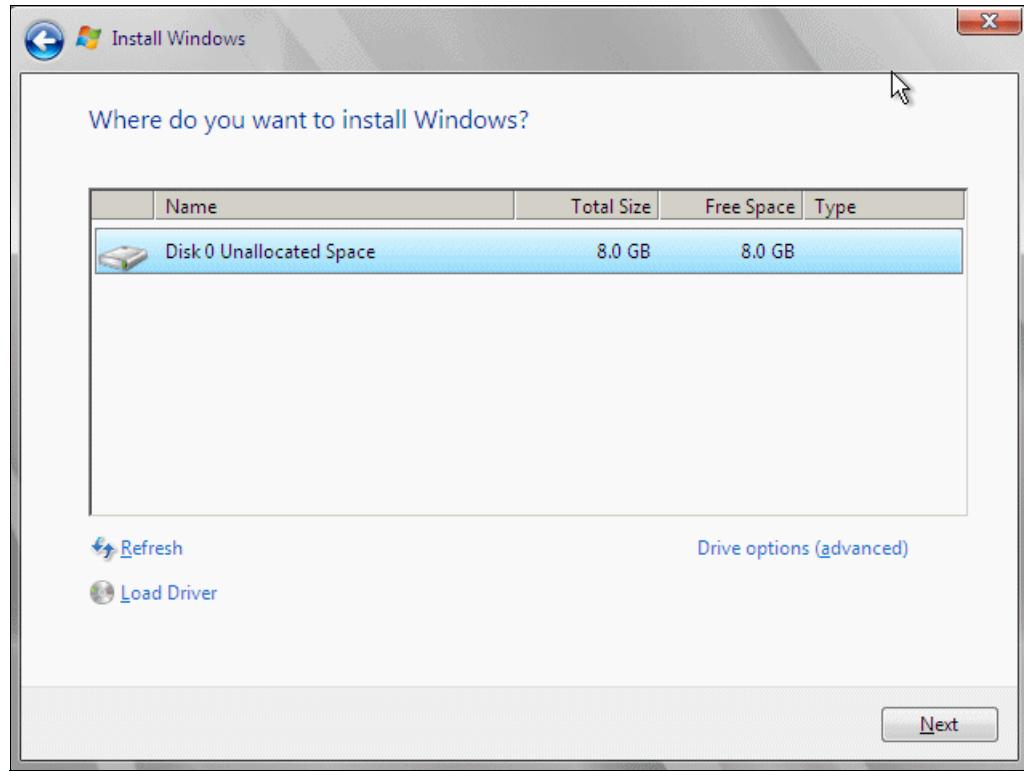

Figure 18-44 Where do you want to install Windows? window
7. If the window shown in Figure 18-44 does not show any hard disk drives, or if you prefer to install the HBA device driver now, click **Load Driver**.